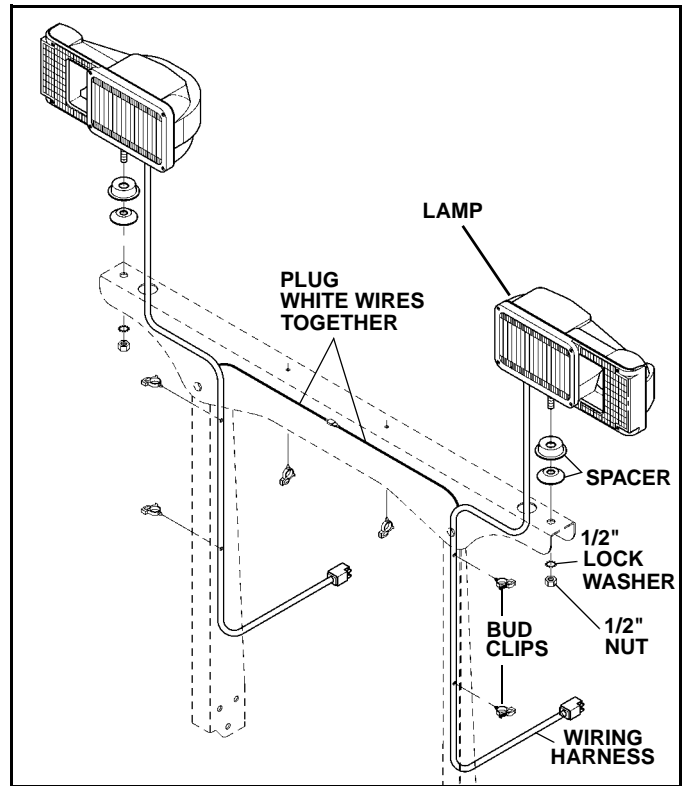
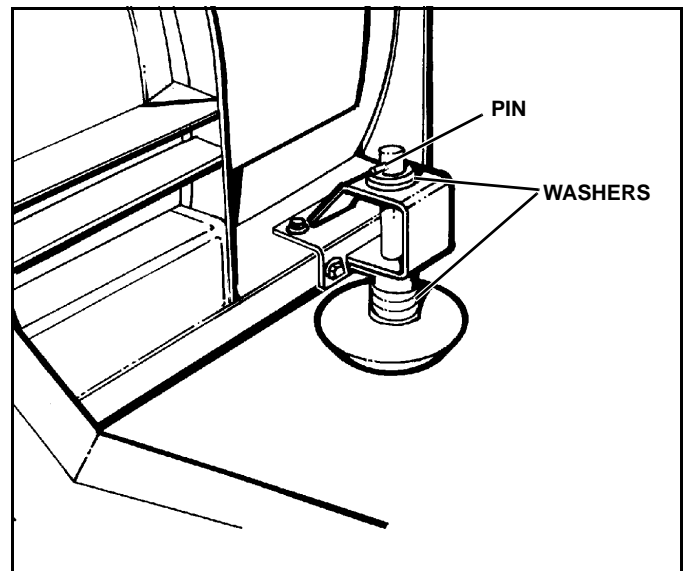

Figure 1-11
Figure 1-18
21. Secure light bar to supports with (4) 3/8" x 1" screws and lock nuts. Align light bar supports to vertical position and tighten all light bar hardware. Tighten six lower screws to 45 lb-ft. (See fig. 1-18). Mount lamps on light bar using supplied 1/2" lock washers and nuts. (See Figure 1-11).
22. Route the harnesses through the light bar, through the access hole and down the inside of the light bar supports. Route the white wire from each lamp along the underside of the light bar and connect. (See Figure 1-11).
14. Adjust each disk shoe assembly by removing disk shoe mounting pin and adding or subtracting washers on the top or bottom of the disk shoe mounting bracket as required according to measurements taken in step #11. (See Figure 1-18).